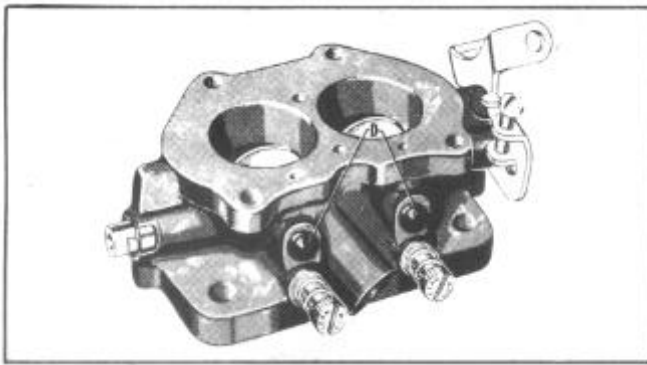

FIGURE 68
4. Install idle port rivet plugs (D), Figure 68. Then install idle adjustment screws and springs. (Adjust to specifications as shown on page 4-17, "Idle Adjustment"),